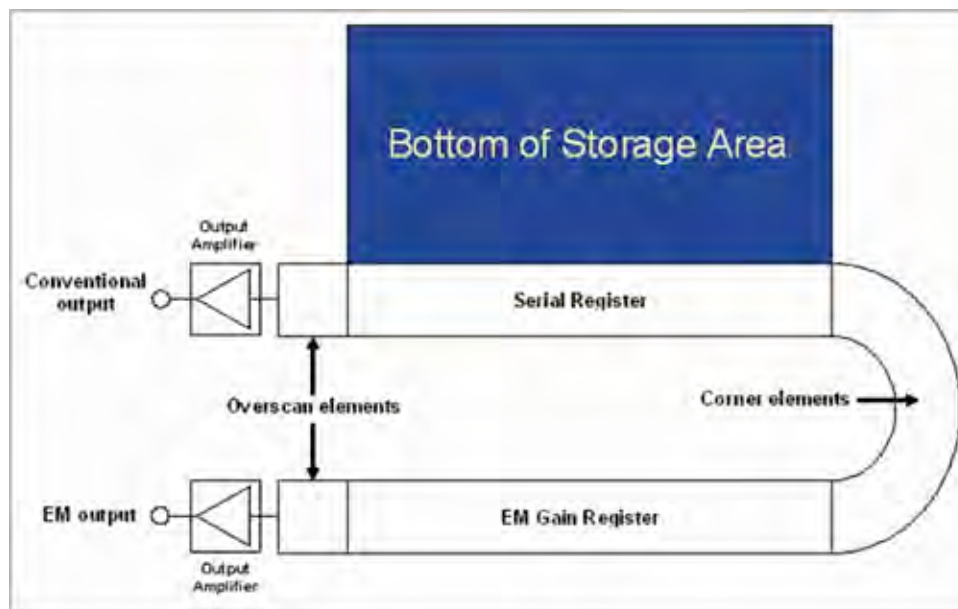

Figure 16: Sensor readout structure
**Figure 16**, below, details schematically the readout structure on sensors with both output amplifiers present. From this it can be seen that, when reading out through the EM amplifier, accumulated charge will move to the right along the serial register and then into the EM Gain register. When the conventional output amplifier is selected, the charge to be read out will move along the serial register to the left then be transferred directly into the conventional output amplifier. This change in direction has the effect of producing mirror images when comparing raw data from the two output amplifiers. Some software packages will automatically reverse the image orientation of one of the output amplifiers to allow direct comparison of images. The user should consult his software manual to verify if this is the case.